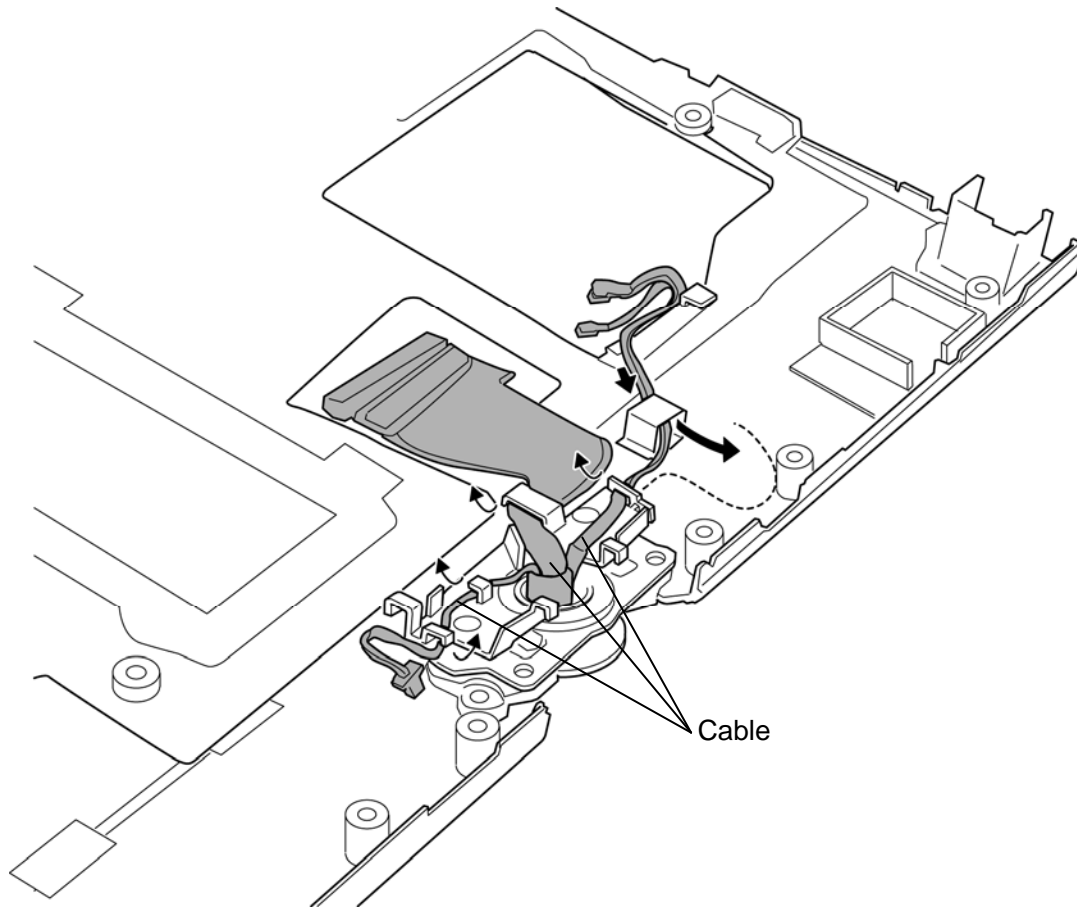

Figure 4-48 Removing the hinge assembly (1)
The following describes the procedure for removing the hinge assembly. (See Figure 4-48 and 4-50.)
The following describes the procedure for installing the hinge assembly. (See Figure 4-48 and 4-50.)
3. Arrange the **cables** carefully as shown in the Figure 4-48 to the guides of the cable holder.